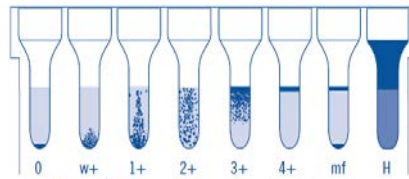

Figure 1. Picture of an example of reaction grades.
Positive results: agglutination and/or hemolysis of the red blood cells is visible in the microtube. In a positive result the agglutinated red blood cells may remain throughout the gel column showing different reaction grades (see Reaction Grades and Figure 1 for a picture of example of reaction grades). Some positive reactions may also form a pellet in the bottom of the microtube. Samples with normal expression of ABO, Rh(D) and K antigens provide strong positive reaction grades. Weaker reactions may indicate a weak or partial expression of ABO, Rh(D) and K antigens. Subgroup A₂ of the ABO system may also present a weak expression.